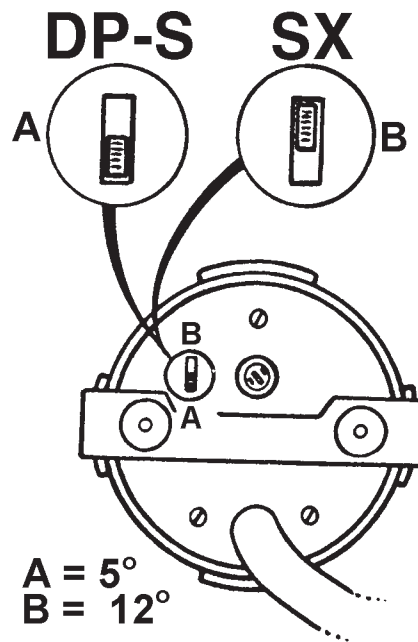

Figure 2
- c. The trim instrument is always supplied set for DP-S (see figure 2). It is set to a trim limit of 5° and the switch is sealed with the switch (see DP-S circle) in position A.